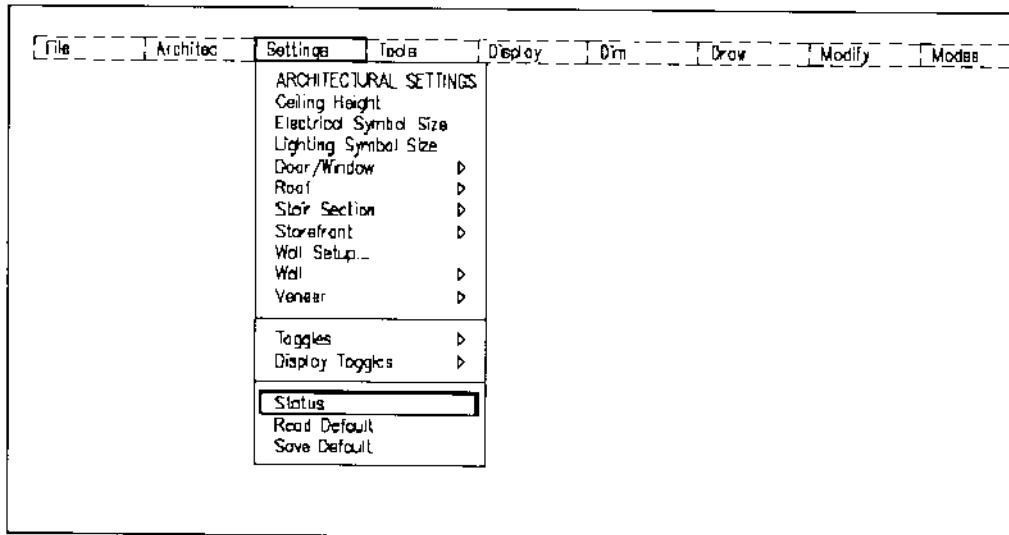

Figure 18.
1. Set up the wall variables for the Space Diagram by selecting Status from the Settings pull-down menu as shown in Figure 18.
2. Select Save Default from the Settings pull-down menu as previously shown in Figure 18, assigning the name Session1.